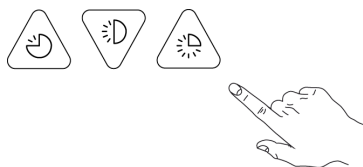

Fig.15
- 4- Press one of the available cycles between button “C”, “D” or “E”. (Fig.15)